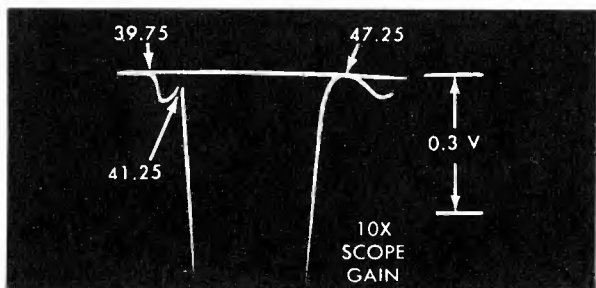
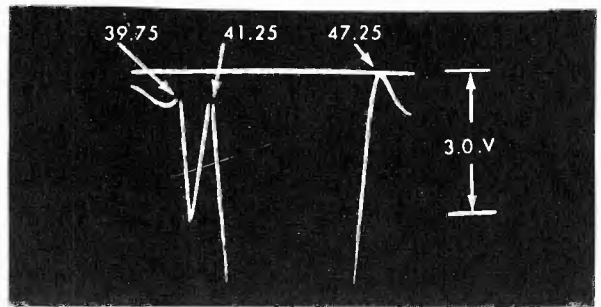
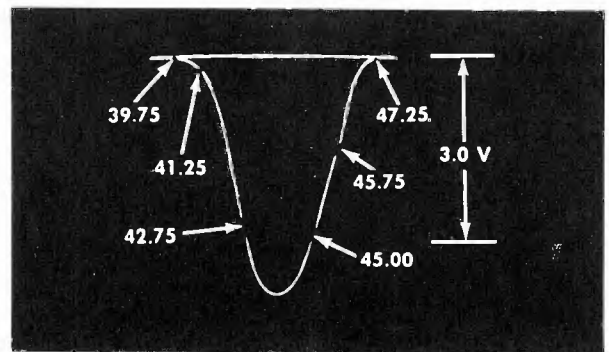

Fig. 6 Expanded View of Traps
Fig. 7 Further Expansion of Fig. 6 for Detail View of the 39.75 and 47.25 MHz Traps
Fig. 8 Overall IF Response Curve
5. Connect the sweep generator to terminal 'A' (converter grid). Connect terminal 'F' to chassis and connect a jumper between terminal 'E' and chassis. Adjust the sweep to obtain a 3V. P.P. response similar to Fig. 8. Switch oscilloscope to 10X gain to 'blow up' the traps (Fig. 6).
6. Refer to Fig. 6 and adjust the 39.75 MHz and the 41.25 MHz traps for minimum marker amplitude. Connect jumper between 'E' and the junction of the 68 ohm and 1500 ohm resistors in the cathode circuit of the 1st IF. This provides an additional 'blow up' of the 47.25 MHz traps (Fig. 7). Adjust the 47.25 MHz trap for minimum marker amplitude.
7. Disconnect jumper between 'E' and the 68 ohm and 1500 ohm cathode resistors. Connect this jumper between 'E' and chassis. Adjust sweep generator for 3 volts peak to peak output at the second detector. Alternately, adjust the 2nd, 3rd, 1st IF and the converter plate coil until an overall response similar to Fig. 8 is obtained. It will be found that the 2nd IF affects the low side (42.75 MHz) and the 3rd IF, the high side of the response curve.